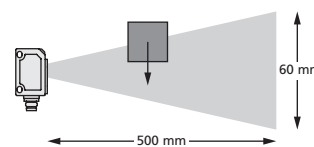

Fig. 5: Unobstructed space in front of the sensor
- The zws-7 has a very short measurement cycle time of only 2 ms. Under unfavourable conditions this can lead to the sensor wrongly responding to echoes from existing measurements. To avoid this, there has to be an unobstructed space extending to a depth of 500 mm in front of the sensor. Only the objects to be detected are to be within the sensor's 20 to 100 mm operating area (see Fig. 5).